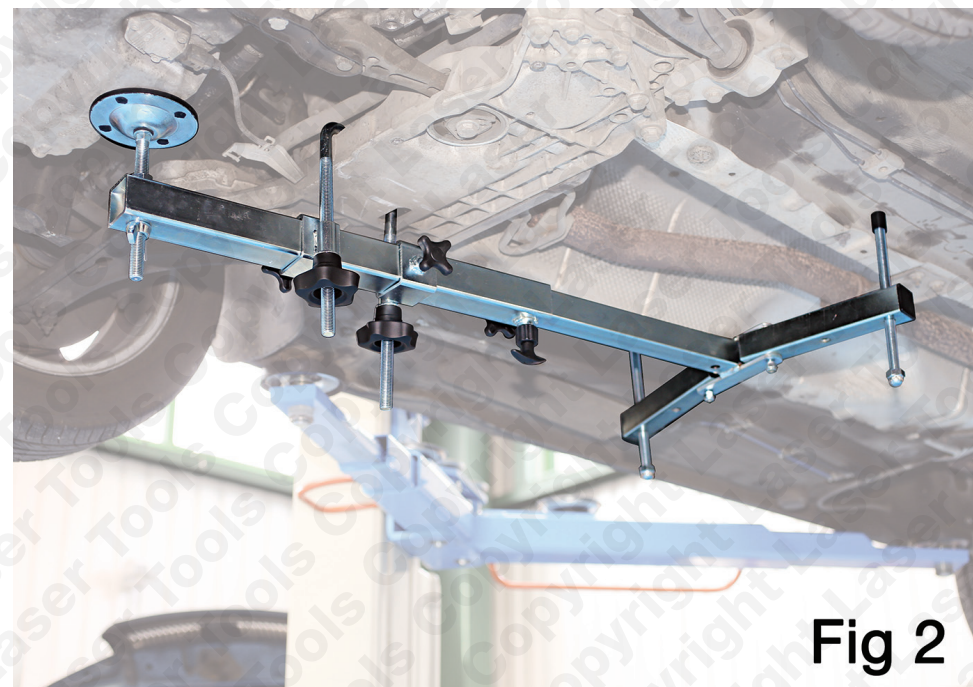

Fig 2
- Refer to **Fig 2**. This is a representation of the 5750 Support Frame installed.